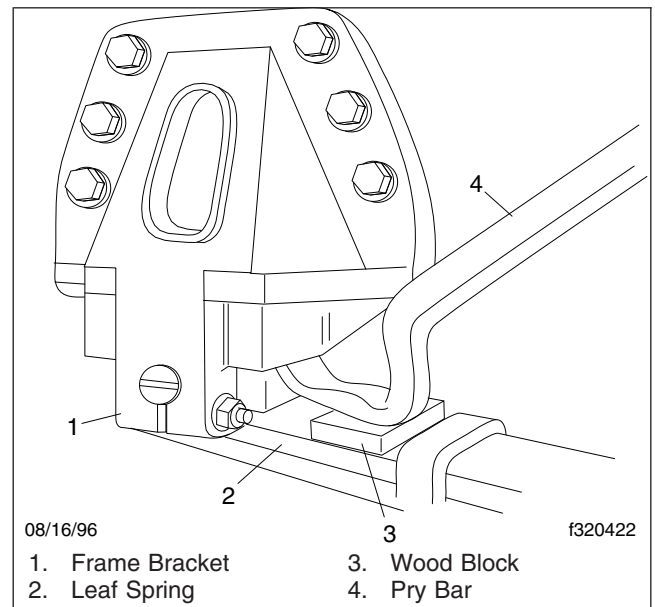

Fig. 13, Hendrickson RT2 and RTE2 Series Frame Bracket Inspection
6. Place a block of wood on the leaf spring. See **Fig. 13**. Place a pry bar on the block of wood and insert the end of the pry bar under the frame
hanger. Attempt to lift the frame hanger, as shown in **Fig. 13**. Also, with an empty chassis and the brakes applied, attempt to rock the chassis back and forth while observing the spring eye. In either case, if 1/8 inch or more of movement is observed, the bushing and pin should be replaced. This also could indicate that a broken